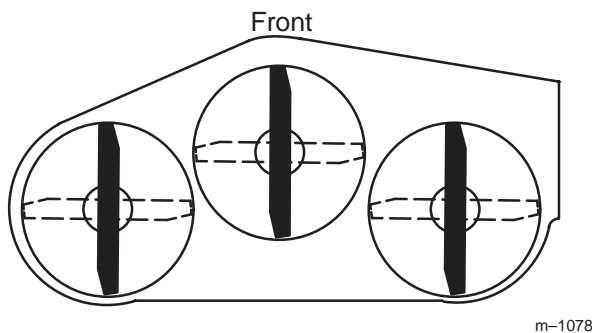
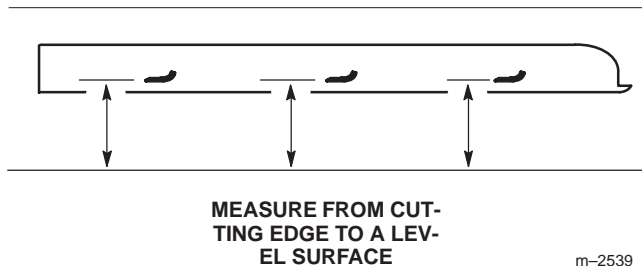

Figure 30
Figure 31
2. Rotate the blades until the ends face forward and backward (Fig. 30). Measure from a level surface to the cutting edge of the blades (Fig. 31). Note this dimension.